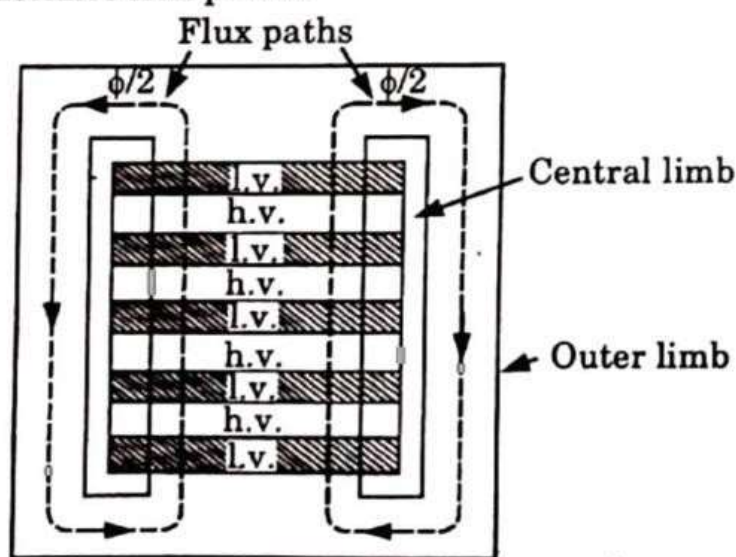

Fig. 3.5.2. Shell-type transformer.
1. In the shell-type transformer (Fig. 3.5.2), both primary and secondary windings are wound on the central limb, and the two outer limbs complete the low-reluctance flux paths.